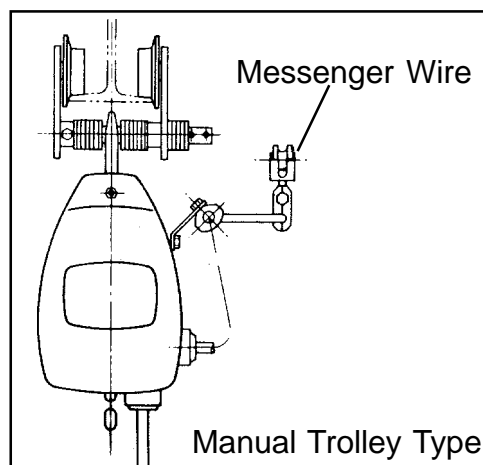

**Fig. 3**
Mount a stopper on the ninth link from the end of load chain (Fig. 2) and connect the end of load chain to hoist body. The load chain must not be twisted (Fig.3).
6. If your hoist is either an SH005-L or SH020-L the bottom hook is suspended by a double load chain. The correct load chain setup is when the weld of every link faces inward (Fig. 3). Never try to suspend a load on a twisted chain.